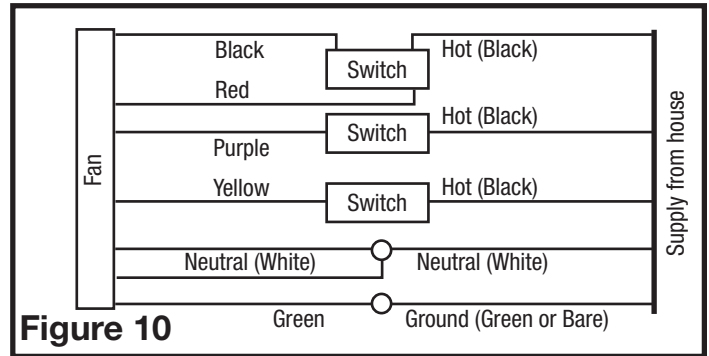

Figure 10
- 3c. From where you have chosen to access the fan's junction box, connect the White wire from the house to the two White wires from the fan. Connect the ground wire (green or bare copper) from the house to the Green wire from the fan (**Figure 10**). Use approved methods for all connections.